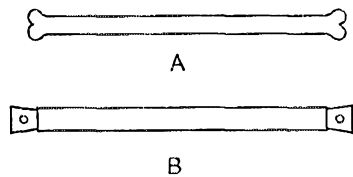
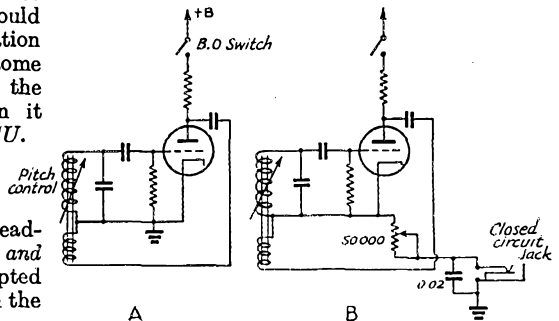

Fig. 2 — Homemade feeder spreaders made from glass tubing by W7DES (A) and W7KK (B).
Fig. 3 — Simple method of converting superhet beat oscillator for code-practice use.
Fig. 2 — An amplifier of great flexibility is provided by incorporating both positive and negative feedback as shown above. The various types of circuit response obtainable are shown in Fig. 3.
The simplest method of reverse-feedback having sufficiently flat frequency characteristics is the un-by-passed cathode-resistor method, and this we may employ. In order to use standard parts in our amplifier, which might best be an intermediate-frequency one of, say, 5,000 kc. for use in a communications-type superheterodyne, we shall also use the so-called tuned-plate-tuned-grid circuit for the positive feedback, together with an auxiliary variable air-condenser between control-grid and plate of the tube. In accordance with the above, an experimental amplifier was built up using the circuit shown in Fig. 2, curves for which are given in Fig. 3.
Fig. 3 — Experimental response curves with the amplifier of Fig. 2. (A) no regeneration or degeneration; (B) regeneration only; (C) critical combination of regeneration and degeneration. Reproduction difficulties make it impossible to do justice to the actual (C) curve, since a graphic line has to have some thickness.
I've discovered a little kink for my Sky Buddy, S19R which doubtless may be applied to other superhets. I wanted some means for code practice, so I changed the b.f.o. circuit as shown in Fig. 3. As may be seen, the only changes made were to disconnect the ground connection from the cathode of the b.f.o. tube and connect the cathode to the ground through a variable 50,000-ohm resistor and a closed circuit jack. To reduce key clicks, a condenser of 0.02 μfd. is put across the jack.